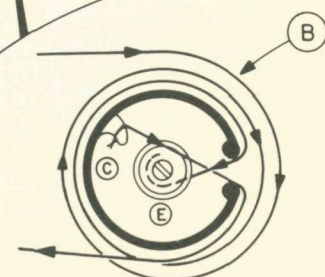

FIGURE 1
- Tie dial cord to ear C (in capacitor-drive drum) as shown in Figure 1. Dial cord goes through slot in drum and is set in the inner groove.
- Wrap the end of the dial cord around the body of the machine screw (E) in the hub of the drive drum and tighten. The cord goes under the flat washer.